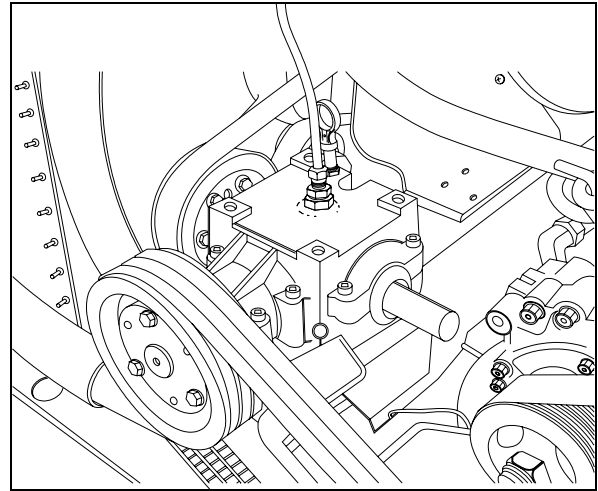

FIGURE 14: FAN GEARBOX
5. Remove the dipstick located on top of gearbox and wipe with a clean rag (Fig. 14).